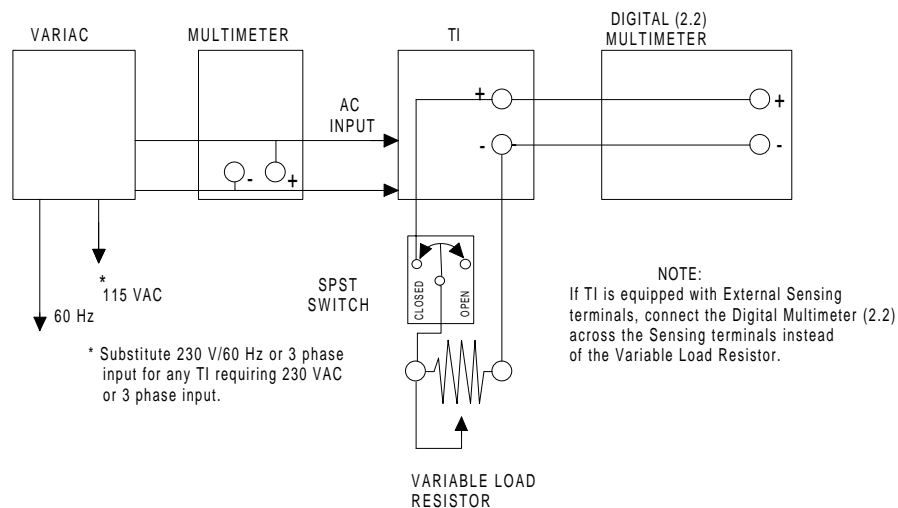

Figure 2.
4.2.1 Connect the equipment as shown in Figure 2.
4.2.2 To ensure that the TI is loaded to maximum current at maximum output voltage, determine maximum Variable Load Resistor value from rating column in Appendix A and connect to Variable Load Resistor terminals of Figure 2. Adjust the Variable Load Resistor to ensure maximum current is drawn.